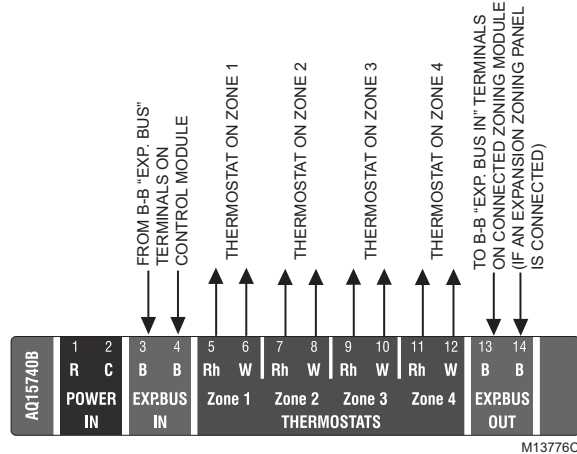

Fig. 9. Connecting thermostats.
1. Using low voltage thermostat wire, connect one thermostat from each zone to the corresponding THERMOSTATS Zone X inputs on top of the Zoning Module (see Fig. 9).